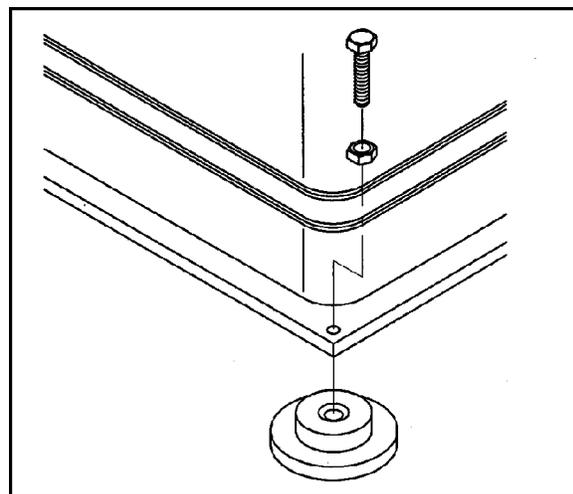

Figure 3
3. You can bolt the rip saw to the floor through the holes at the four corners. If not bolting to the floor, attach the four cast iron foot pads beneath the corners, with the four M16 x 80 leveling screws and four M16 nuts. See Figure 3.